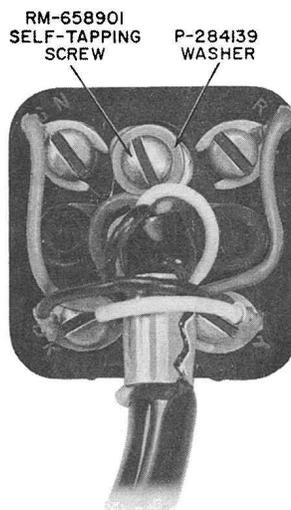

Fig. 36 — D4BP Cord Terminated on 283B Plug
*Note:* An RM-658901 self-tapping screw and a P-284139 flat washer will be shipped with each 283B plug (Fig. 36).
(5) Bend cord tips and dress red and green conductors so they lie next to the cover mounting screw (Fig. 36).
(6) Seat base of plug in cover before tightening screws. This prevents pinching of conductors.